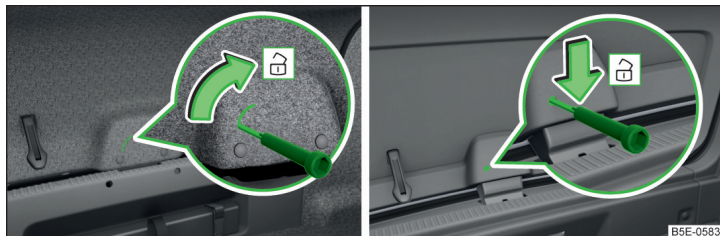

Fig. 337 Unlock Flap: Variant 1 / Variant 2
- › Insert a screwdriver or similar tool into the recess or the opening in the trim » Fig. 337 as far as the stop.